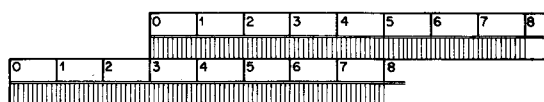

Fig. 1.19
**Introduction.** We may add two lengths mechanically as shown in Fig. 1.19. If we wish to add lengths of 3 and 4 together we may do it by setting 0 on the upper scale opposite 3 on the lower scale. Then by finding 4 on the upper scale we find under it 7 on the lower scale. Thus the sum of 3 and 4 is 7.